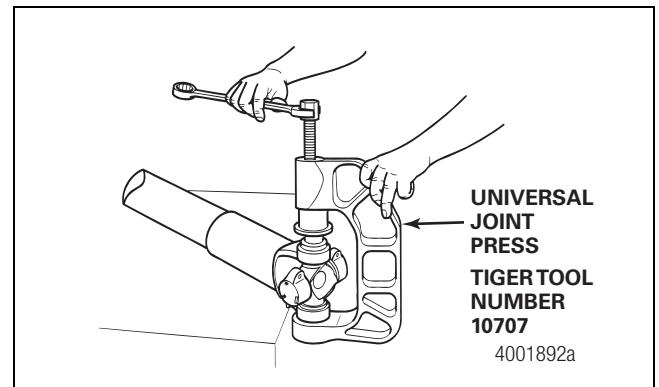

Figure 4.9
1. Position a universal joint press (Tiger Tool number 10707). Figure 4.9. Refer to the Service Notes page on the front inside cover of this manual for information to obtain this tool.